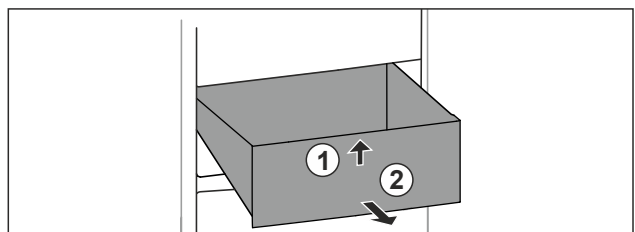

Fig. 84
- ▶ Lift up drawer at the front. Fig. 84 (1).
- ▶ Remove drawer to the front. Fig. 84 (2).